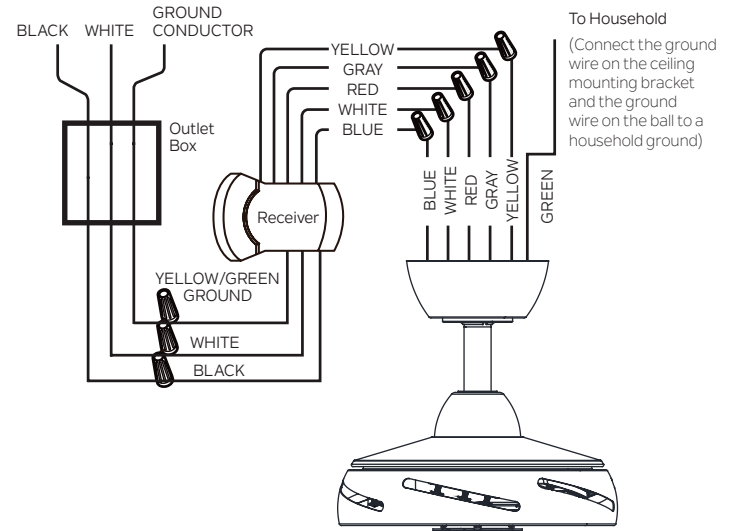

Fig. 13
Step 1. The ground wire (green) of the ceiling mounting bracket and the ground wire (green) of the ball connects to the ground conductor of the ceiling outlet box **(Fig. 13)**.